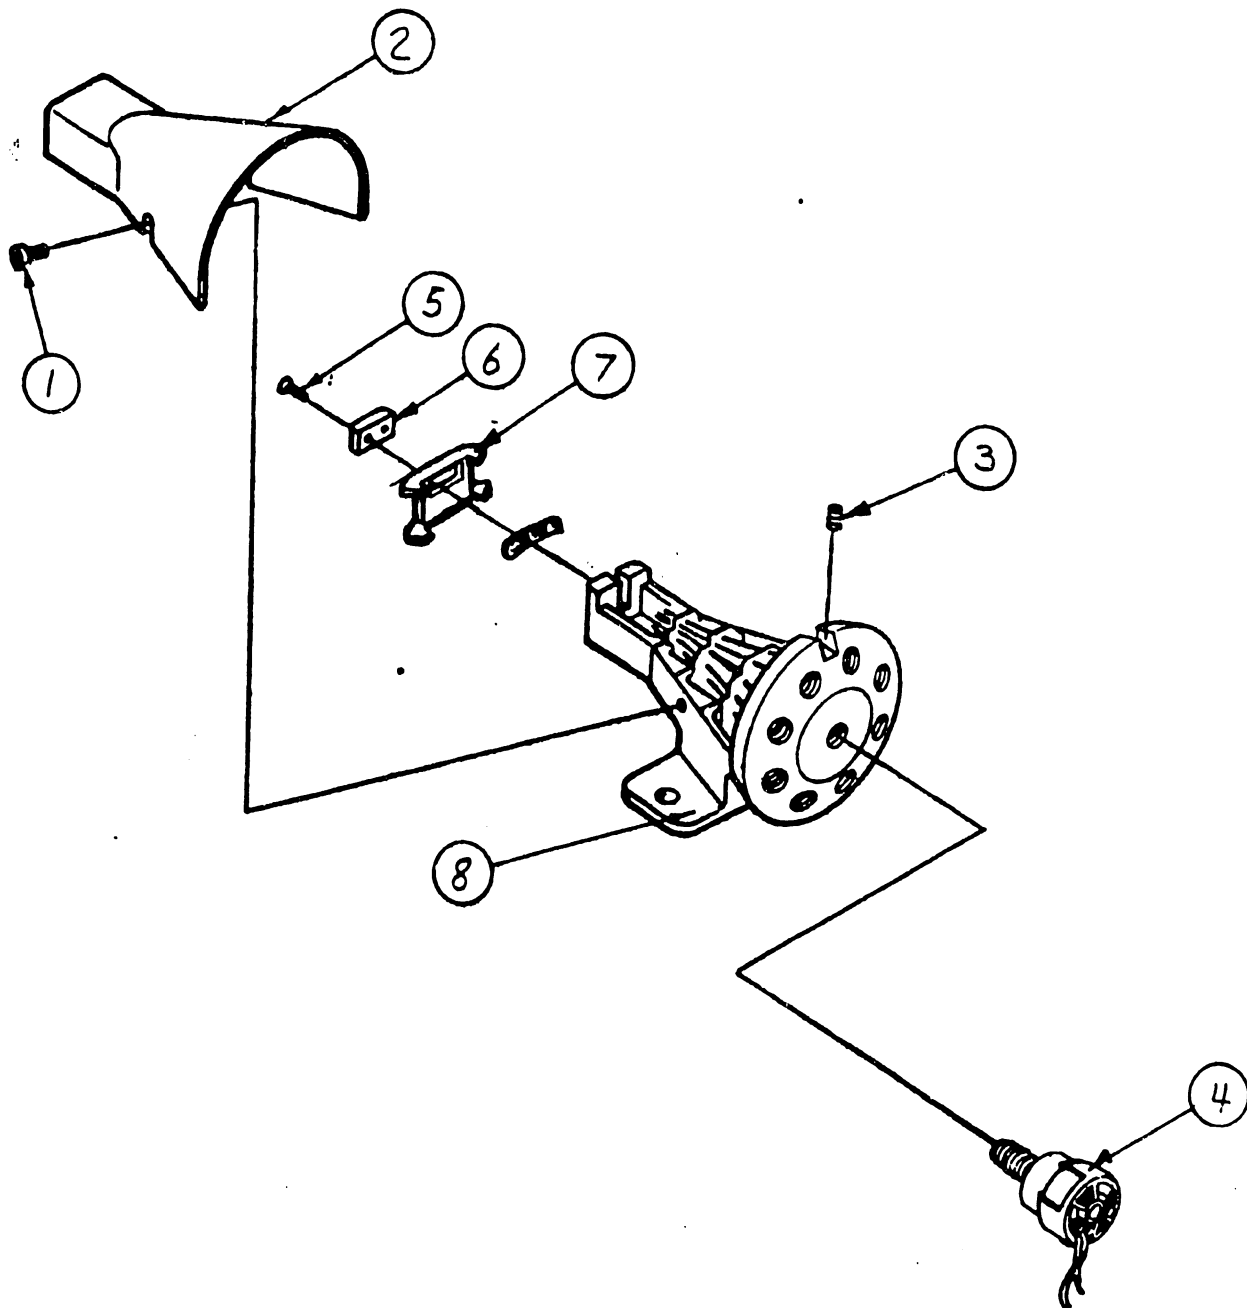

FIGURE 8-1
8.2 PRINT HEAD ASSEMBLY (See Figure 8-1)